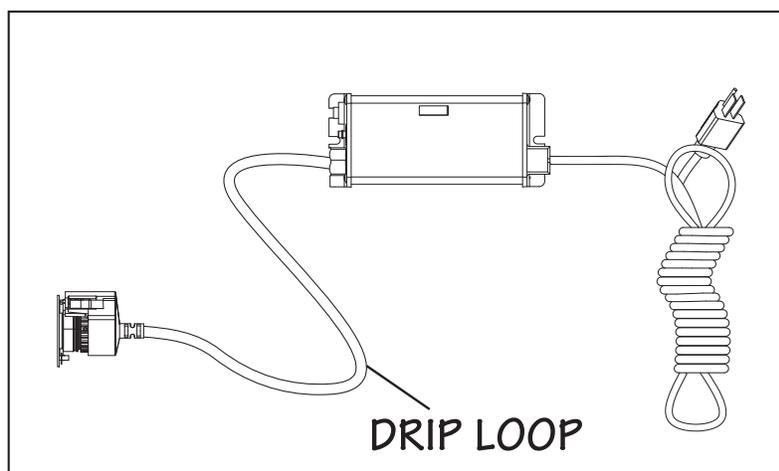

Figure 6 Drip Loop
- The controller should be mounted either above or beside the chamber. Always mount controller horizontally to prevent moisture from running down cordage and causing a potential fire hazard. Drip loops in all cordage connected to controller is highly recommended. Refer to Figure 6.
4. Mount the VIQUA ICE controller horizontally to the wall, near the chamber. Ideally place the controller above the chamber and away from any water connection point, to prevent any water from potentially leaking onto the controller by means of a leak at a connection point or a "sweating" system. Make sure you allow for a "drip-loop" as shown in Figure 6 on the lamp, sensor, and power cord, again, to prevent any water from potentially entering the controller.